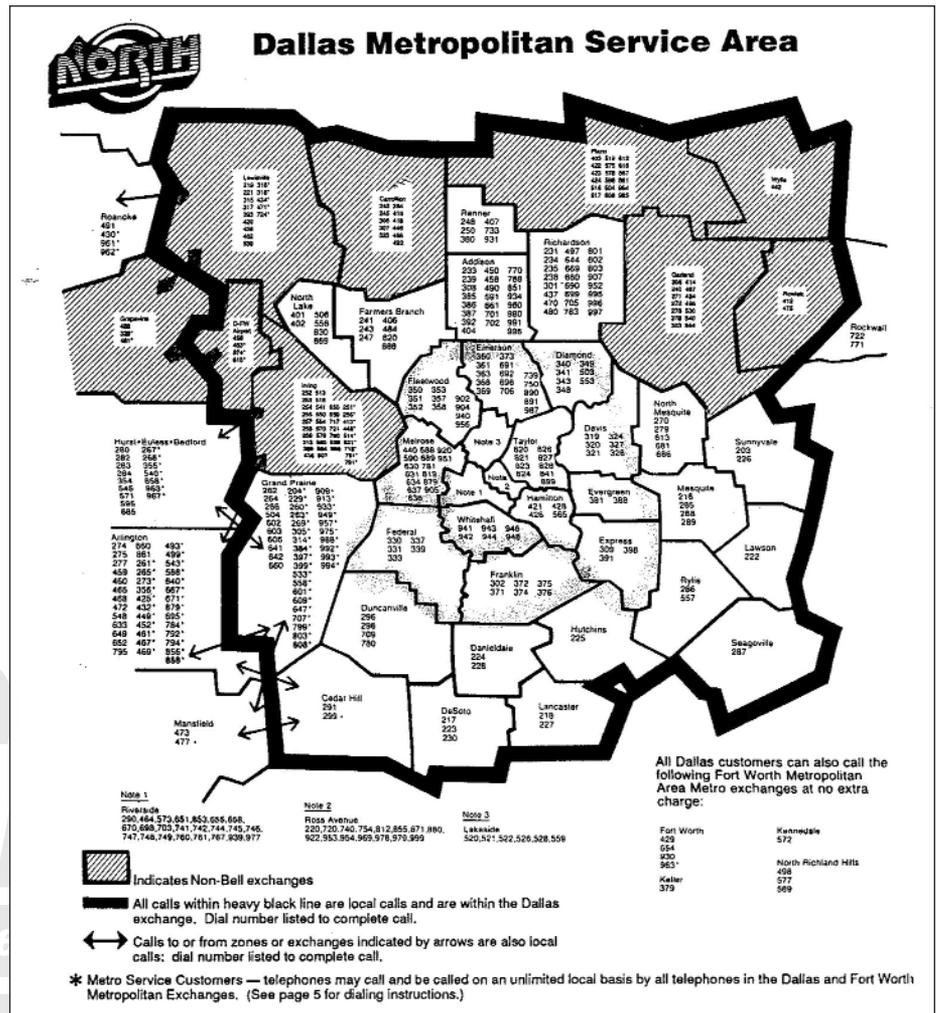

Figure 2:
local central office for your area. It should be no more than a few miles away, with very few exceptions. In the center cities it may be only blocks away. Out in the country it could be miles away. Suffice it to say however that probably 90% of them are within 18,000 cable feet or less of a subscriber, or less than 3.4 miles. Once you have located it, drive the route between it and your company location. Look for construction, digging, or other activity in the right of ways along the street. After a while, if you are so inclined, you will even learn which boxes and pedestals contain fiber optic equipment, xDSL equipment, T1 repeaters and other components. It is not like any of this is going to help you DO anything about potential disasters, but if you spot a big construction crew working adjacent to your company's fiber terminal, you can at least have some possible warning that something may happen. Another easy way to become familiar with the service area of a particular local CO is to pick up a local telephone directory and look at the first few pages. Sometimes, but not always, there is a diagram that illustrates the local calling area and exchanges served in the immediate area (See Figure 2) The scale may not be exact, but it gives a good indication of the *relative size* of the service area. It might even list the telephone prefixes (NXX codes) for the area. For example, by looking at Figure 2, (specifically at the "6:00 position") notice that a telephone subscriber with a 223 telephone prefix is served out of the DeSoto Central Office (CO). By comparing this diagram to a regular city map it is possible to get an idea of how many other companies are served out of your area's local telephone office. This could have a bearing on recovery time in the event of a severe CO outage. You can also get an idea of how far you would have to drive to find a working phone if the CO is destroyed or incapacitated.